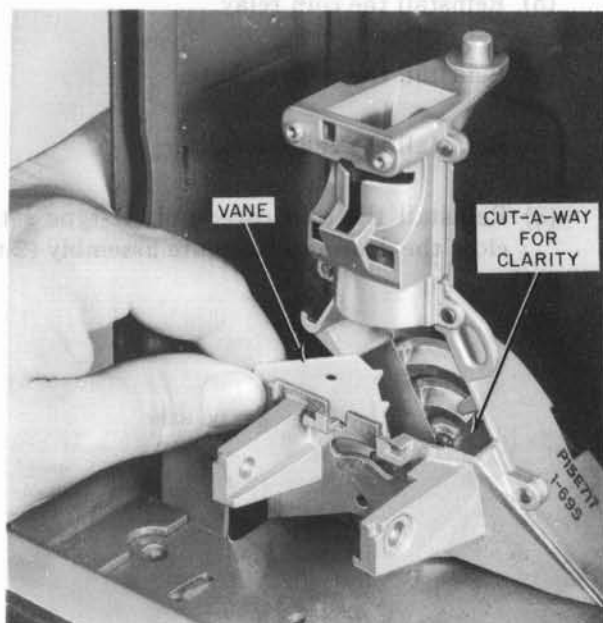
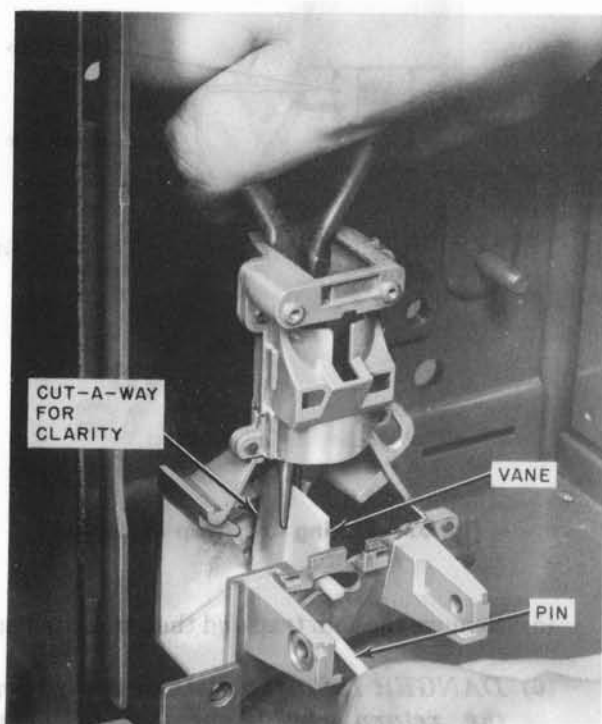
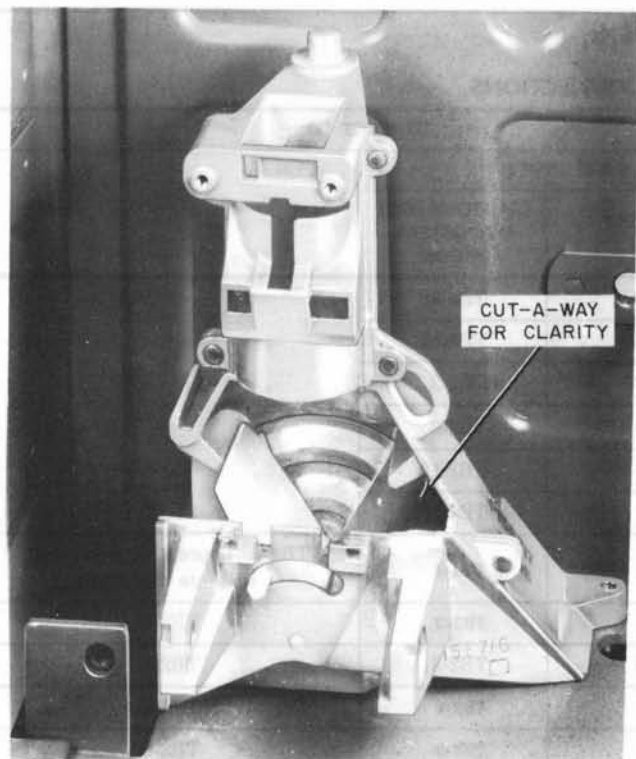

Fig. 64—Inserting Vane
Fig. 65—Installing Pin in Vane
Fig. 66—Vane Installed
(2) Position the new coin hopper vane in the hopper shown in Fig. 64 and grasp it with long nose pliers as shown in Fig. 65.
(3) Insert the pin shown in Fig. 65 through the hopper housing and the vane until the indentations on the pin snap in place in the vane as shown in Fig. 66. Ensure that the vane moves freely.
(4) Reinstall the coin trap and the associated parts.
(5) Reinstall the coin relay.
(6) Reinstall the return chute.
(7) Reinstall the chute totalizer.
(8) Reinstall the coin cover unit (1-type set) or close the door and faceplate assembly (2-type set).